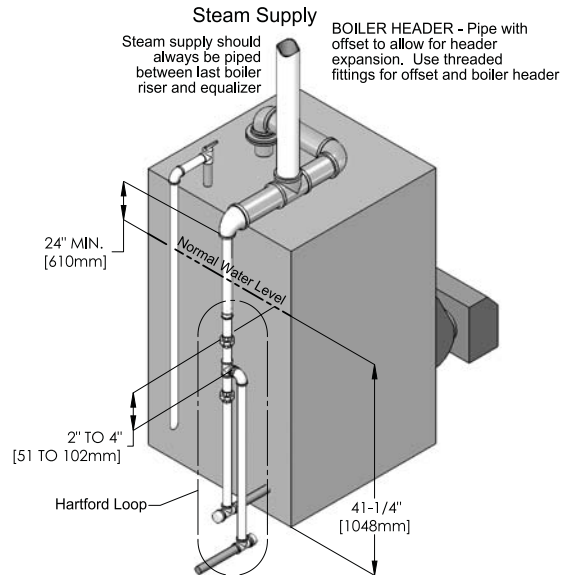

Figure 3.1: Typical piping arrangement for boilers with one riser.
2. Piping for steam boilers is shown in Figures 3.1 and 3.2. Table 3.1 contains a pipe size schedule for steam boilers.
- b) See Figure 3.1 for a typical piping arrangement for boilers with one riser.
4. A Hartford loop, as shown in Figures 3.1 and 3.2 is recommended in all steam boiler installations. The loop prevents the boiler from being drained completely due to a leak in a return line.